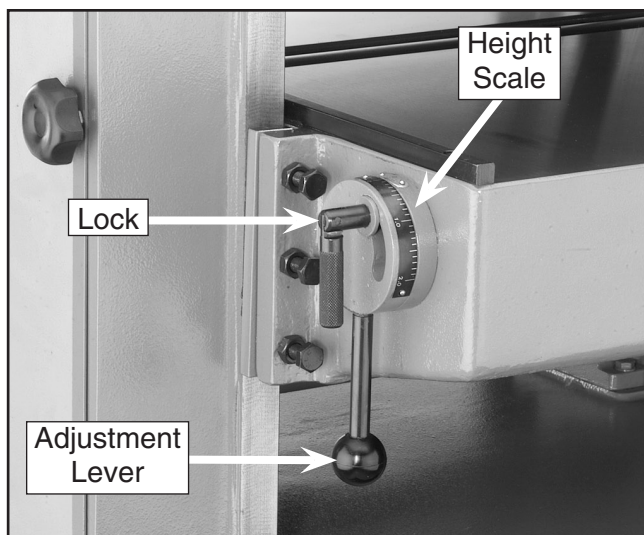

Figure 17. Roller height adjustment controls.
1. Loosen the lock on the adjustment lever shown in **Figure 17**. Pull the lever up to raise the table rollers.